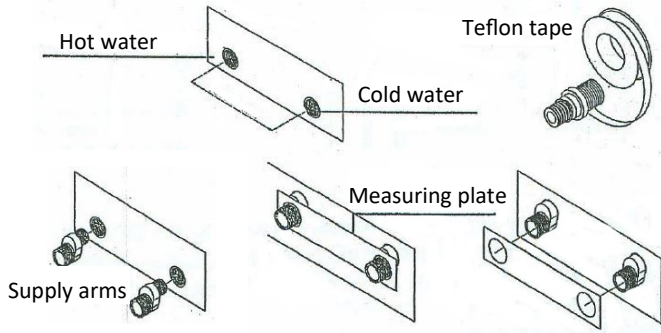

Figure 1
1. Install 1/2" FPT hot & cold water lines flush with the wall roughly 6" apart. (Figure 1)
2. Attach supply arms to water lines using Teflon tape ensuring they are correct distance apart and level. Use the measuring plate as a guide. Additional Teflon tape may be needed to obtain the correct spread. (Figure 1)